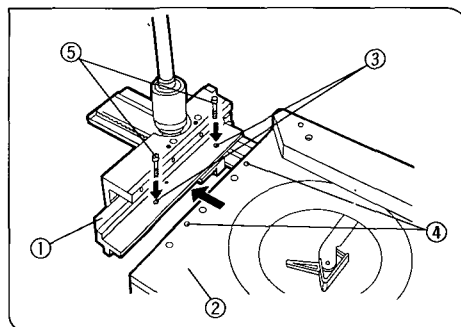

Fig. 14
1. Invert the mechanical stage ①. Invert the plain stage (IX-SP) ② and place it on top of the inverted mechanical stage. (Fig. 14)
2. Align the two mounting holes ③ on the mechanical stage with the mounting holes ④ on the plain stage. Insert the two clamping screws ⑤ and tighten with the Allen screwdriver.